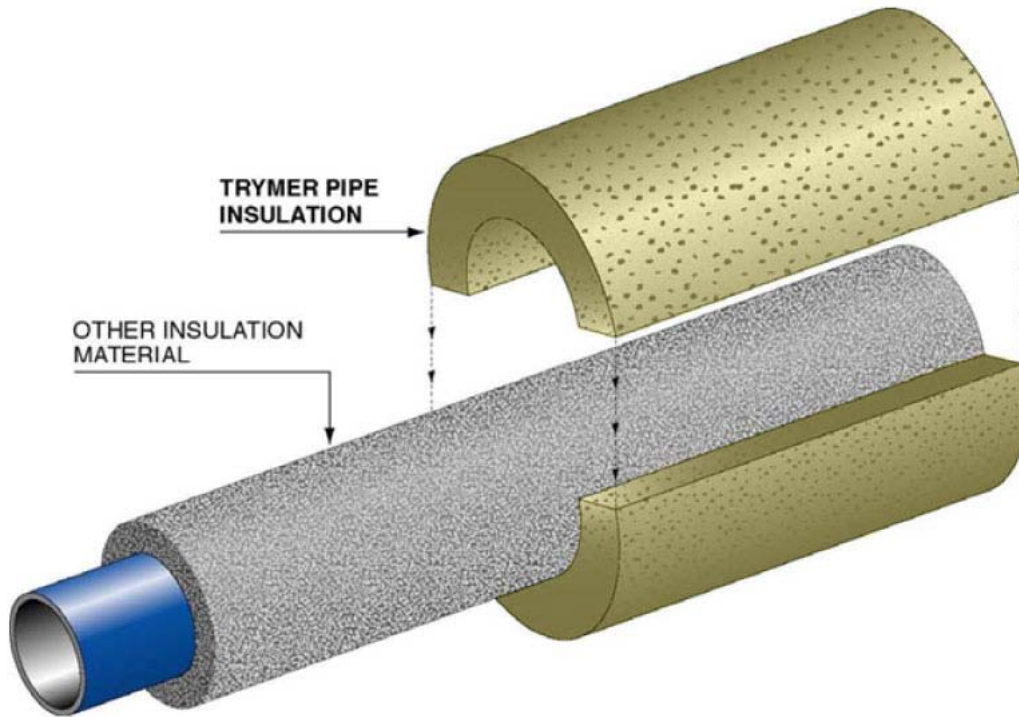

Figure 3
- 4.1.2 If service temperature exceeds 300°F for anything other than brief or infrequent time periods, install an inner layer material other than Trymer insulation recommended for higher temperature service. Install Trymer Insulation on the outer layer. Refer to Figure 3 in Appendix B for details of a composite system.